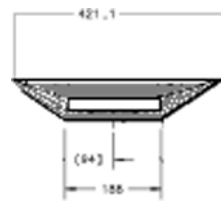

Figure 1-31 Determine slot center
- c.) Find the center of the inside slot. Width of the inside slot is 186.4 mm (93.2 mm center.) Use a square or straight edge to determine the center. See Figure 1-31.